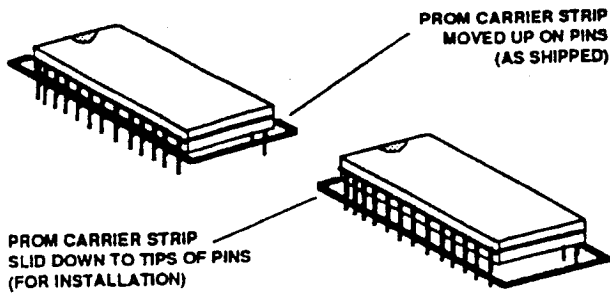

Figure 4. PROM and PROM carrier strip. Place PROM on level surface with pins down. Carefully slide carrier strip toward ends of pins.
- Place the new PROM on a flat surface *with the pins down* and carefully slide the carrier strip downward toward the ends of the pins, figure 4. Position the carrier strip about *1/32-inch from the ends of the pins*. Be sure that ALL pins stick through the holes in the strip. If the carrier strip slides off the PROM pins, insert the pins into the strip holes on one side and then carefully insert the pins on the other side into their holes.